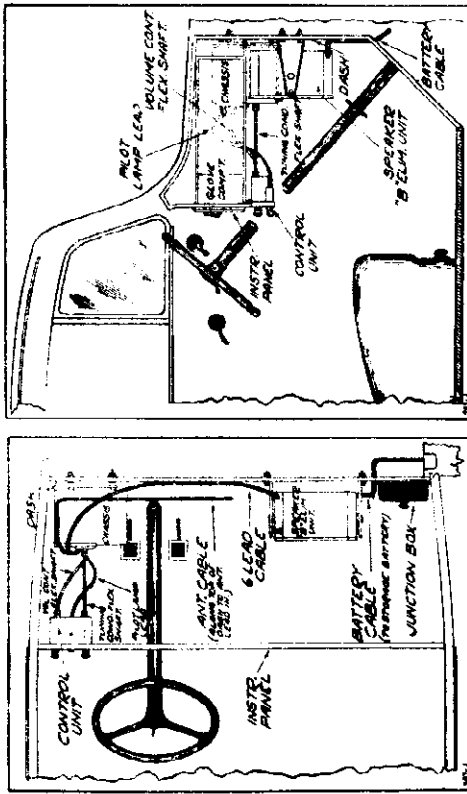

Fig. 1—General Installation—Top View
Before mounting the chassis read the articles on "Mounting the Control Unit" and "Attaching the Flexible Drive Shafts." Hold the control unit in position or mount it in place temporarily, so that the position of the flexible shafts can be determined. The chassis is mounted in back of the dash at the left side, as shown in Fig. 1. It should be mounted in such a way that the tuning condenser flexible drive shaft to the control unit will be in substantially a straight line as shown in Figs. 1 and 2. The chassis is mounted with the washer bushings in which the flexible shafts go, facing the control unit, and with the cover at the bottom. It is secured to the dash by means of the dash mounting plate, see Fig. 4. In some of the earlier models it will be necessary to mount the cut-out box to a higher location in order to mount the chassis.
For these holes is at a point where the tuning condenser flexible drive shaft to the chassis will be in substantially a straight line (see Figs. 1 and 2). Before mounting the control unit permanently attach the flexible shafts, as explained in the next article, and attach the pilot lamp plate to the bottom of the unit, as explained in the article on "Completing the Wiring Connections."
The speaker—"B" eliminator is mounted on the back of the dash by means of two brackets, as shown in Fig. 3. The best location is at the right side of the dash under the glove compartment as shown in Figs. 1 and 2. It should be mounted with the brackets at the side as shown in (A) Fig. 5, and with the inner bracket mounting holes as indicated in (B) Fig. 5. The box is mounted with the tone control knob at the upper left, as shown in Fig. 1. The
panel as shown in Figs. 1 and 2. In the 1932 and 1933 models there are two holes on the flange at the bottom of the instrument panel on the left side, which line up with the two holes on the mounting base of the control unit. In the earlier models, it will be necessary to drill these holes. Two 1/8" holes with centers 4 1/2" apart are required. The best location
As shown in Figs. 1 and 2, the battery cable is brought down the dash, through a hole in the dash and thence over to the battery. It passes through the raised portion of the battery compartment cover.
The six-lead cable between the chassis and the speaker—"B" eliminator is usually brought over along the dash as shown in Fig. 1.